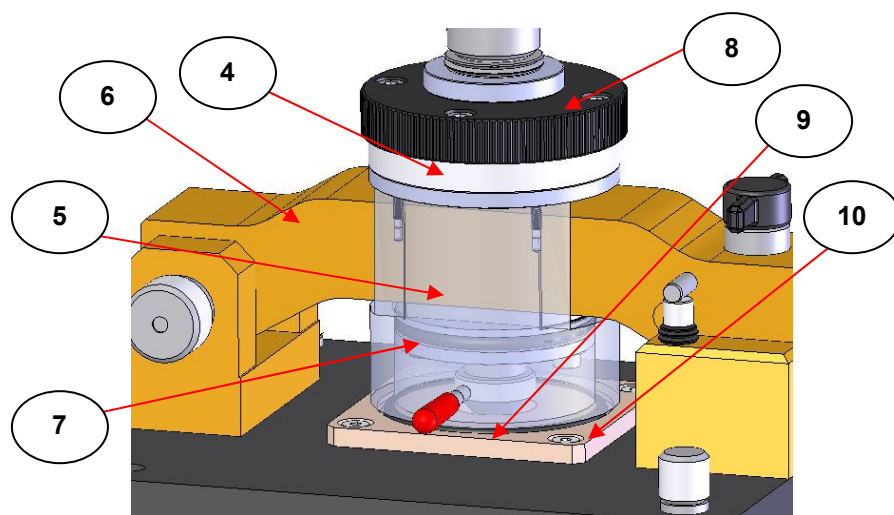

Fig 4. Envirochamber Golden Gate™ Cap Assembly detail
The Envirochamber Cap assembly (4) of the Envirochamber Golden Gate™ top plate has been incorporated into the general bridge, clamp anvil and torque knob assembly mechanism. The Perspex cap part (5) slides past the bridge (6) and sealing is created for this sliding action by use of a Viton O-ring (7). The cap (5) is raised or lowered by rotating the black coloured, knurled knob (8). Rotating the knob (8) clockwise lowers the cap (5) and turning it anticlockwise raises the cap (5). When lowered, the circumference edge of the cap (5) presses and seals against a Viton O-ring (9) that is held within the PEEK material surface plate (10). (See Fig 4.)